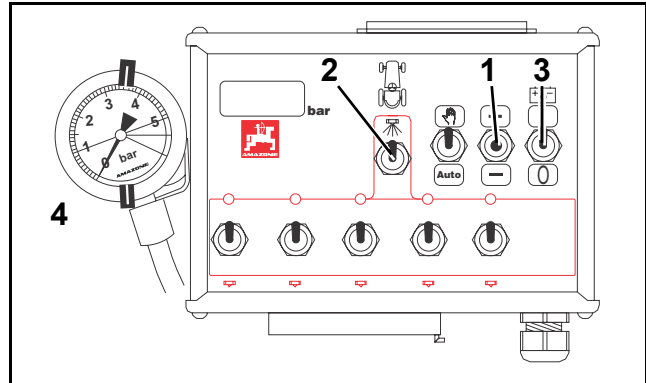
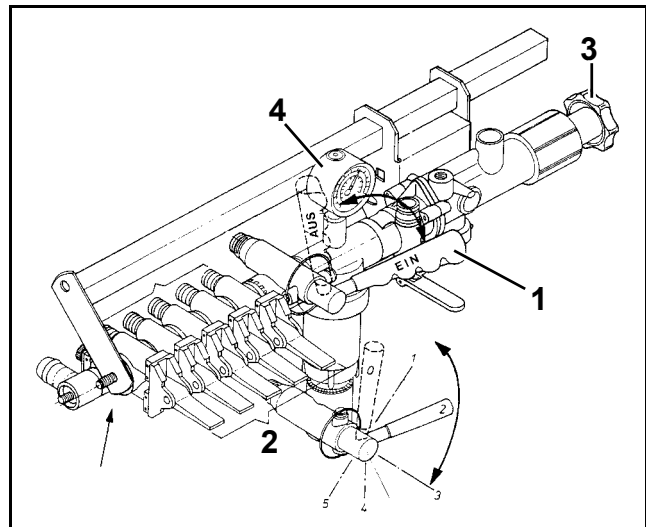

Fig. 36
Fig. 37
- Turn On/Off-switch (Fig. 36/1) for the power supply to position "I" (EIN) (**only with control units "electrically remote controlled with switch box"**).
- Set the central tap (Fig. 37/1) on to position (ON/EIN) and shut off metering taps (Fig. 37/2) (**only for control units "manually actuated"**) or turn off the master boom on/off switch (Fig. 36/2) to position "0" (OFF/AUS) (**only for control units "electrically remote controlled with switch box"**).
- Set the spray pressure found in the spray setting chart via the star knob (Fig. 37/3) or the  $\pm$ key (Fig. 36/3) on the spray pressure display (Fig. 36/4 or Fig. 37/4).